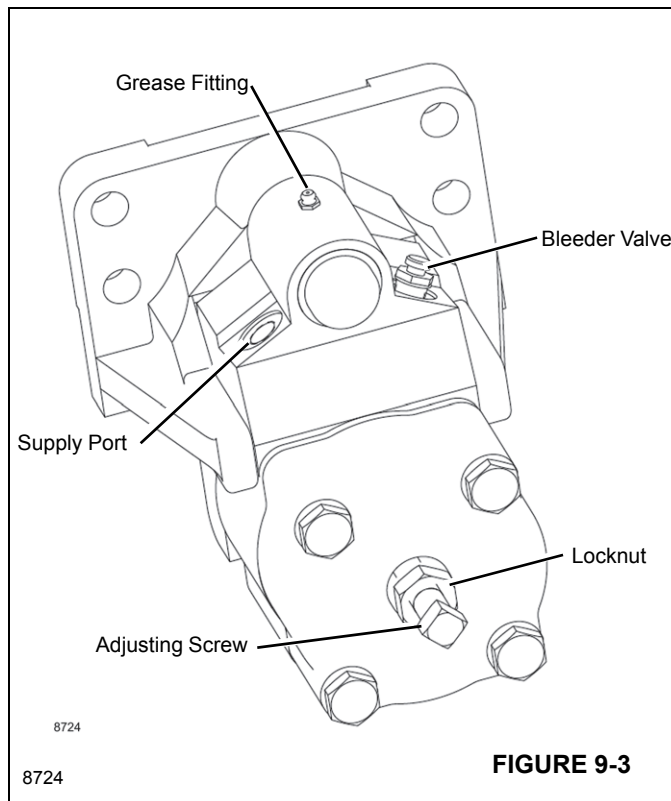

FIGURE 9-3
The parking brake is a disc-type brake Figure 9-3. The brake disc is attached to the input shaft of the front axle. The brake is attached to the frame behind the front axle. When the parking brake switch is placed in the engage position, hydraulic supply is shut off to the parking brake and the springs in the parking brake apply the brake pads against the brake disc, holding the crane from moving.
1. Verify the bleed port is located correctly. The bleeder valve plug should be located on the top side of the brake housing when the brake is installed. See Figure 9-3.
6. Bleed the system by opening the bleeder valve. Close bleeder screw and cycle brake 5 times. Repeat opening bleeder screw/cycling brake until all air is out of system. Torque bleeder valve to 12.2-20.3 N-m (9-15 lb-ft). See Figure 9-3.